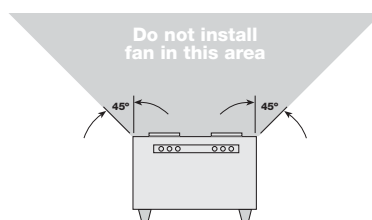

Figure 3 — Mounting Location
temperature, clean air applications only. Figure 3 shows the minimum distance these fans should be placed in relation to cooking equipment.
1. For best performance, choose a location with the shortest possible duct run and minimum number of elbows. Do not mount near cooking equipment, shown in Figure 3.